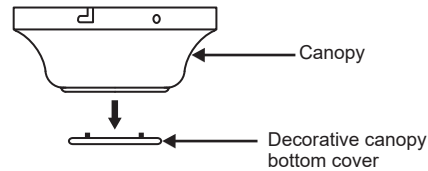

Fig. 8
Step 1. Remove the decorative canopy bottom cover from the canopy. (Fig. 8)